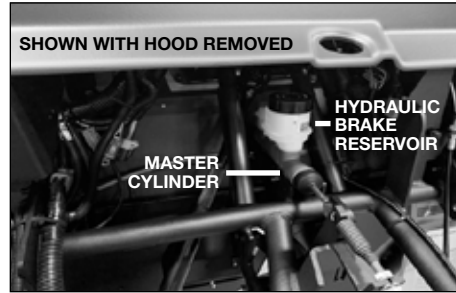

figure 4.16 (hydraulic brake reservoir location)
- For the REAR of the vehicle, place a straight edge (or 2' level) placed vertically at the 12 and 6 o'clock position. Using a digital or dial type angle gauge, adjust the wheel end to achieve 1 deg POSITIVE camber (top of wheel outboard slightly) by rotating the radius arms to the correct position. DO NOT tighten the radius arm fasteners until the TOE adjustments have been made. (REF FIG 4.16)
Hydraulic Brakes (refer to figure 4.16)